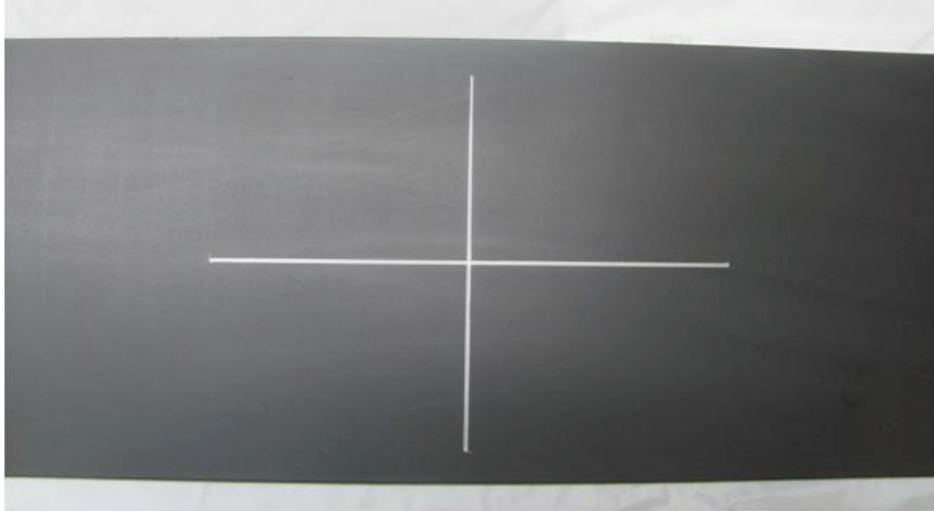

Figure 9: Marking accelerometer mounting location
2. Locate the centerline of the gaging area in both the longitudinal and transverse directions. First, locate the midpoint and draw two centerlines as shown in Figure 9. The longitudinal centerline should be approximately 4 inches (100 mm) long and the transverse centerline should be approximately 2 inches (50 mm) long. This will allow the marks to be seen while the accelerometer is being positioned.